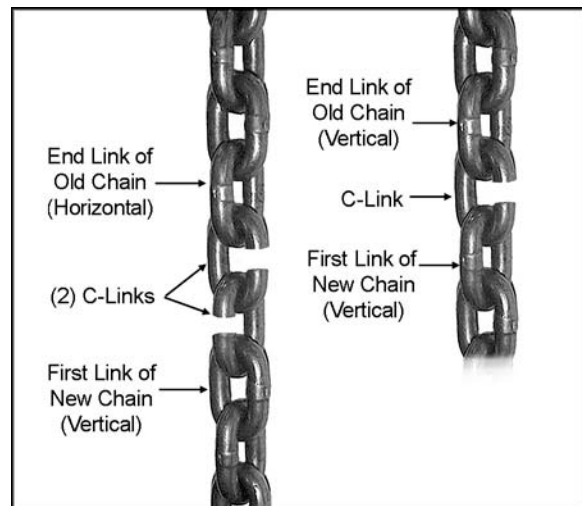

Figure 19
4. Using a C-link(s), connect the new chain to the old chain. If the end link of the old chain is horizontal, use two C-links. If the end link of the old chain is vertical, use one C-link. See Figure 19. Using the correct number of C-links will properly orient the chain, and ensure that the first link on the load side end is a vertical link.